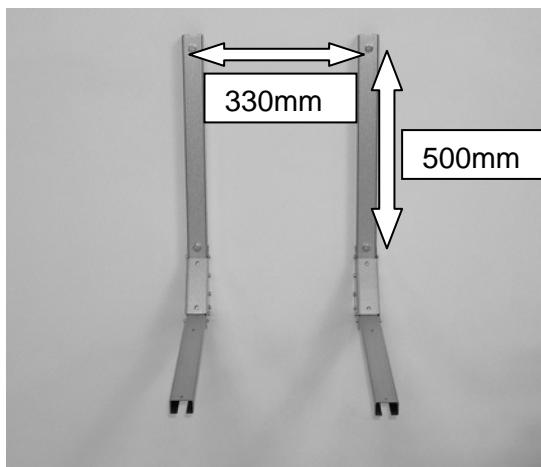

Fig 1
- Secure the brackets to the wall by means of four 8 mm screws, with the brackets located 330 mm between the centres (see Fig. 1). Make sure that the horizontal legs are level.